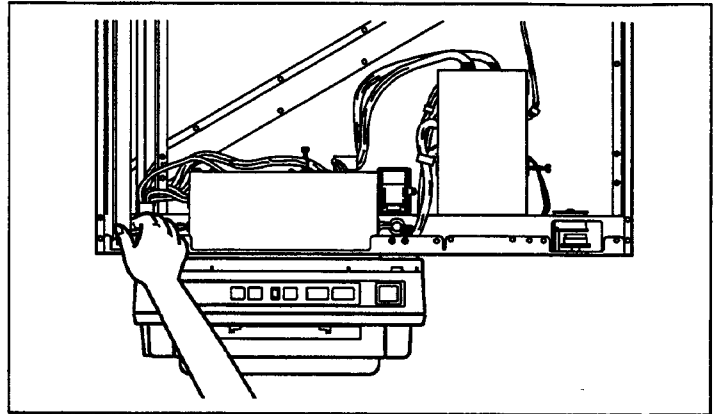

Fig. 5-11
- 3) Twist the fluorescent lamp 90 degrees to remove it as shown in Fig. 5-11.
**Note:** Because access to this lamp is limited, please twist the lamp as shown in Fig. 5-11 from the bottom.